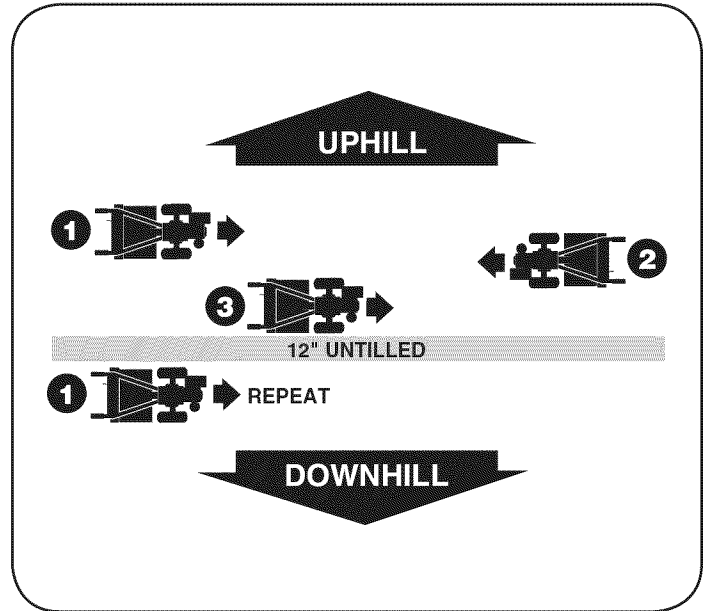

Figure 16
1. To create a terrace, start at the top of the slope and work down. Go back and forth across the first row. See Figure 16.